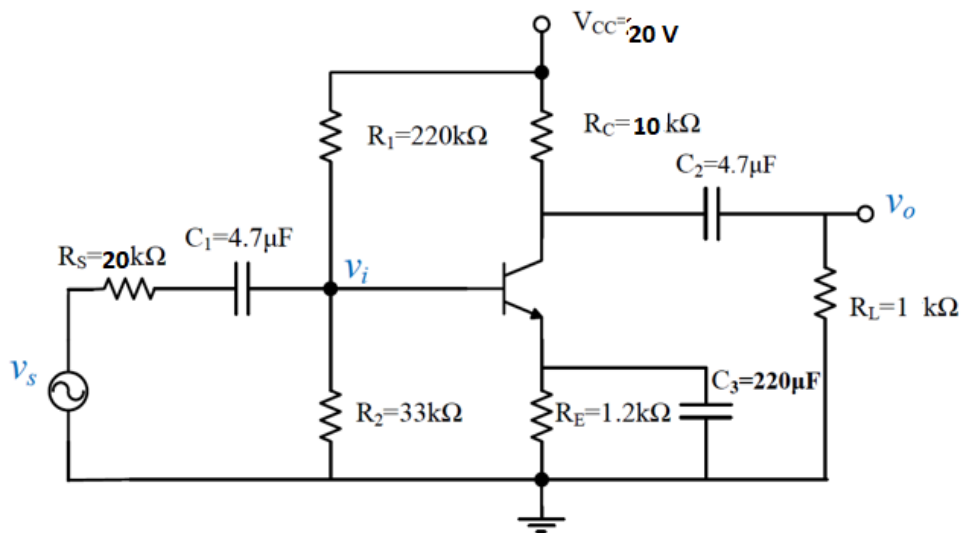

Figure 1
1. Set up the circuit given in Figure 1 in ORCAD. Use BC237 transistor model.
- a. Analyze the circuit given in Figure 1 and find I_B , I_C , and V_{CE} . ($\beta_{DC} = 300$)
2. Set up the circuit given in Figure 1 in OrCAD. Use the BC237 transistor model.
3. Set up the circuits given in Figure 1 in TincerCAD and add the results to the report.
- Setup the circuit given in Figure 1 using the BC237 transistor.